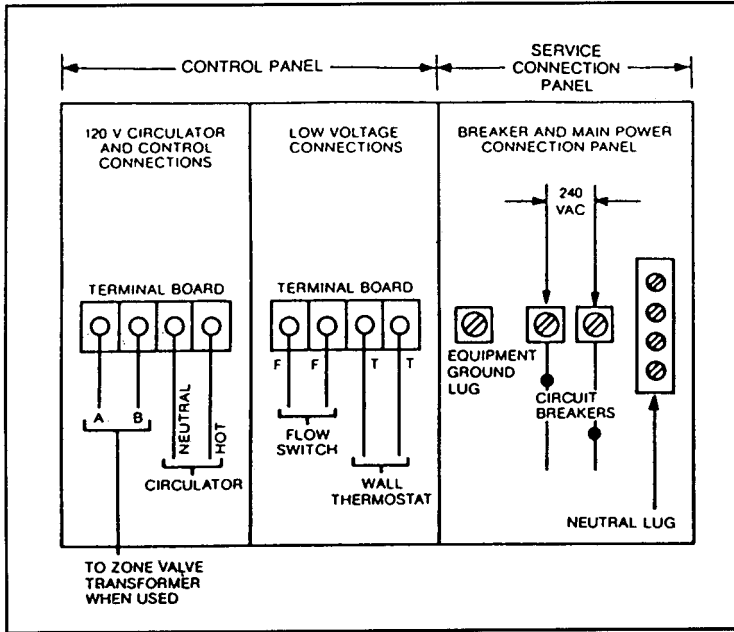

Figure 5. Electrical Connections
- The right-hand compartment under the Control Panel Cover contains a terminal board marked, "TTF". Wire a 2-wire 24V heating thermostat or the auxiliary end switch terminals of zone valves (see Figure 5) to "TT" at this time. The "FF" terminals are for the flow switch. You may draw the wires between the flow switch and the compartment containing the "TTF" terminal board but the wires at the flow switch end may NOT be connected and the ends should be taped. The flow switch circuit is a low voltage circuit (see wiring diagram, Figure 5).
- A. All circuit breakers ahead of and at boiler must be OFF. Remove the Service Connection Panel (right hand front). Cover by removing 5 screws from the top, bottom and side flanges (see wiring diagram on back of the Service Connection Panel and Figure 5).
Close bypass valve. Turn down all zone thermostats. Inspect all zone valves to be sure all are closed. Put a jumper on TT terminals. Close ALL panels and turn on the 15 AMP control circuit breaker ONLY. Be certain that the flow switch wires are not connected to the flow switch terminals and the ends of the wires are taped. Connect the ohmmeter or other continuity tester across the common terminal and the terminal that is normally open during NO FLOW. Slowly open bypass valve until continuity tester lights or ohmmeter kicks to zero: flow switch now has closed contacts, indicating required minimum bypass flow rate when piping circuits are shut off. Bypass valves should be locked at this position. Shut OFF ALL circuit breakers ahead of and at boiler and open CONTROL PANEL (left hand FRONT) COVER. Remove jumper on TT terminals. Connect flow switch wire to flow switch terminals. Replace CONTROL PANEL COVER. Connect zone valve end switches (in parallel) to thermostat. See Figure 5 and wiring diagram on boiler.